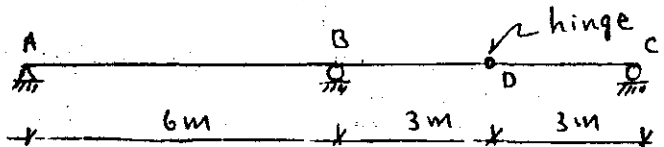

Fig.3
b) Draw influence line for bending moment at B and vertical reaction at A in the beam shown in Fig.3. Find their maximum value due to a load of 60 kN/m that may occupy any part of the beam.